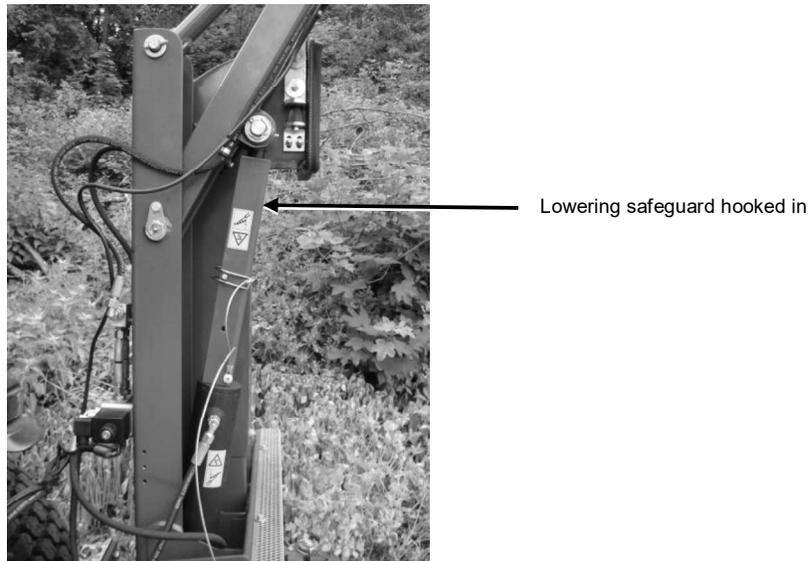

Fig. 61: Lowering safeguard in *secured position*
- Hook the lowering safeguard onto the appropriate bolt to safeguard the bin against unintended lowering (see Fig. 61).